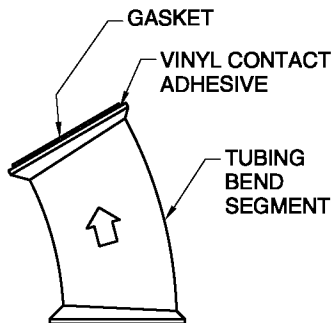

Fig. 2
2. Apply a very light coat of a neoprene based, rubber and vinyl contact adhesive (3M #80 adhesive), per the application directions given by the adhesive manufacturer, to one side of the gasket and one tubing bend segment (see Fig. 2). Adhere the gasket to the prepared bend segment, ensuring that the gasket is centered on the bend segment. This procedure is done only for the purpose of retaining the gasket to the bend segment during assembly.